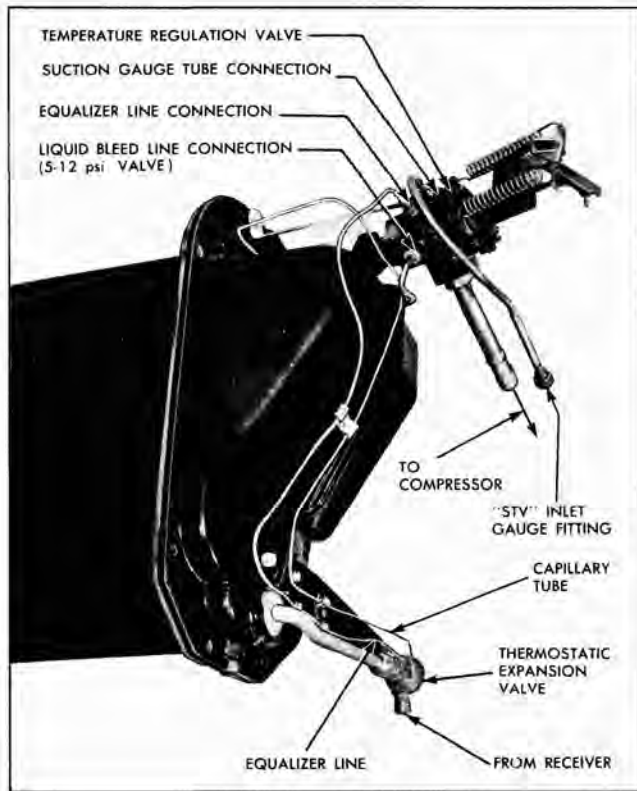

Fig. 5-100 Equalizer Line at Temperature Regulation Valve
8. Disconnect thermostatic expansion valve equalizer line at temperature regulation valve (Fig. 5-100).
7. Disconnect thermostatic expansion valve equalizer line at the temperature regulation valve (Fig. 5-100). Plug openings.